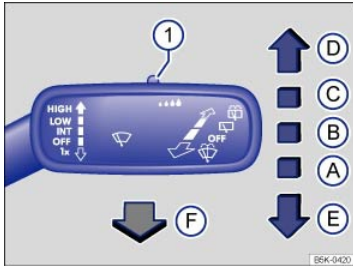
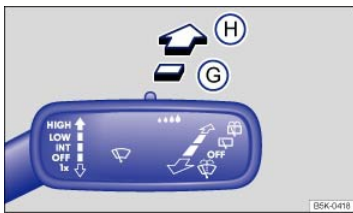

Fig. 95 Operating the front windshield wipers.
Fig. 96 Operating the rear wiper.
Move the lever to the desired position ⇒ Fig. 95 ⇒ ① :
- ① Switch for adjusting the windshield wiper interval settings (vehicles without a rain sensor) or the sensitivity of the rain sensor (vehicles with a rain sensor).
Move the lever to the desired position ⇒ Fig. 96 ⇒ ① :